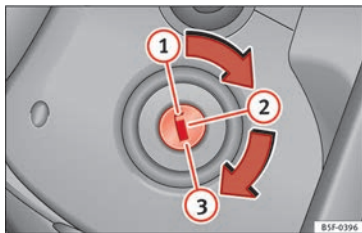

Fig. 145 Ignition key positions.
In this position » Fig. 145, the ignition and the engine are OFF and the steering may be locked.
- Turn the ignition key to position **»» Fig. 145 ②**. The warning lamp  will light for engine pre-heating.
- When the lamp turns off, turn the ignition key to position **③** to start the engine. Do not press the accelerator.
- Turn the ignition key to position  **Fig. 145** .